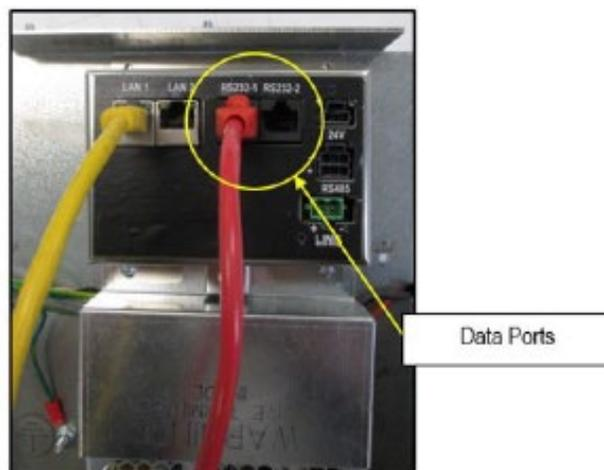

Figure 60
- 8) Unplug and label/mark the Red Cat5e Data Cable from the Invenco Link port labeled "RS232-1" annotated in Figure 60 below.